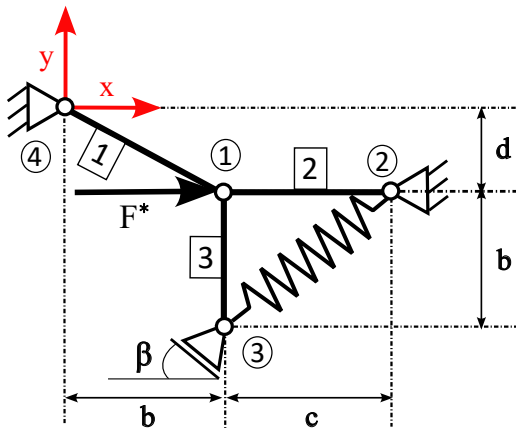

Fig. 3: View in  $x-y$  Plane
2. **Task:** A 3D structure discretized by three LINEAR TRUSS ELEMENTS is shown in the figures below (1 to 4). The structure has to be analyzed using the linear Finite Element Method. The three trusses of the structure are connected at node ①, which is free to move in all directions. Node ② is constrained by a guided support, where the prescribed displacement  $u_{23}^*$  is applied in z-direction, while in x- and y-direction node ② is fixed. Node ③ is also constrained by a guided support and can move in the x-y plane with an angle  $\beta$  to the x-axis, as shown in Fig. 3. Node ④ is fixed and positioned at the origin of the coordinate system. Additionally, a spring with stiffness  $k_s$  connects node ② and ③.